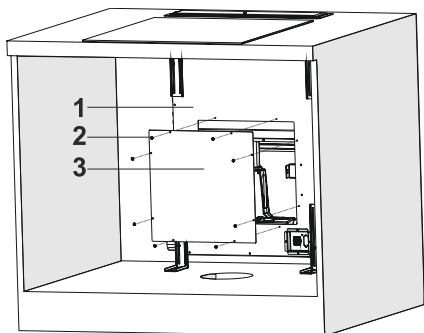

Fig. 17
7. ➔ ■ Front and rear air exhaust sections are located on the housing. Remove housing air exhaust cover plate according to installation plan (Fig. 17).